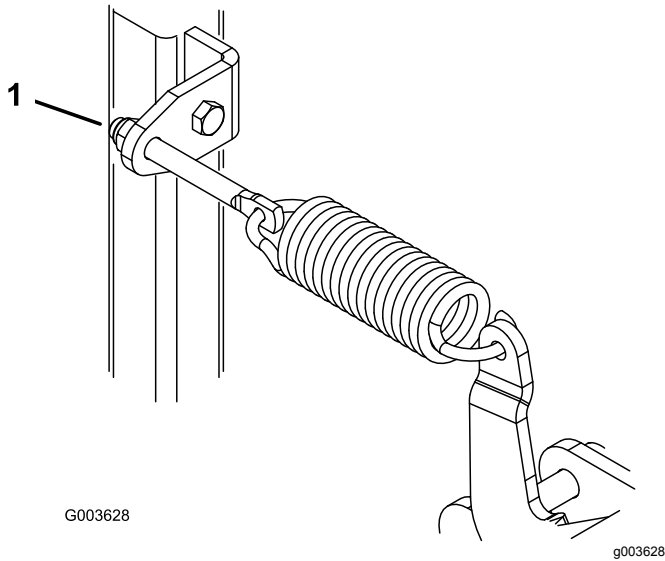

Figure 27
2. Rotate the spring adjusting nuts (Figure 27) clockwise to raise the blade or counterclockwise to lower the blade.